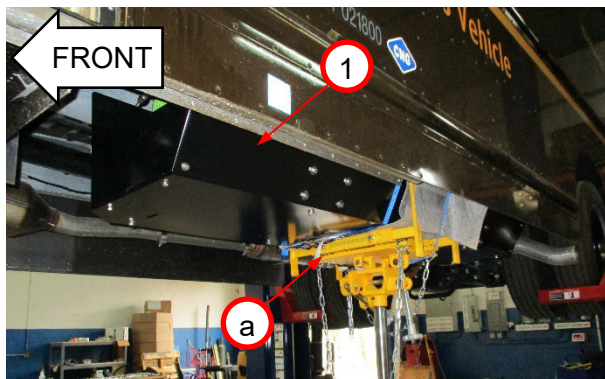

Figure 1:
3. Support cylinder shield (1) using a transmission jack (a). *Figure 1*
6. Lower cylinder shield (1) using the transmission jack (a). *Figure 1*